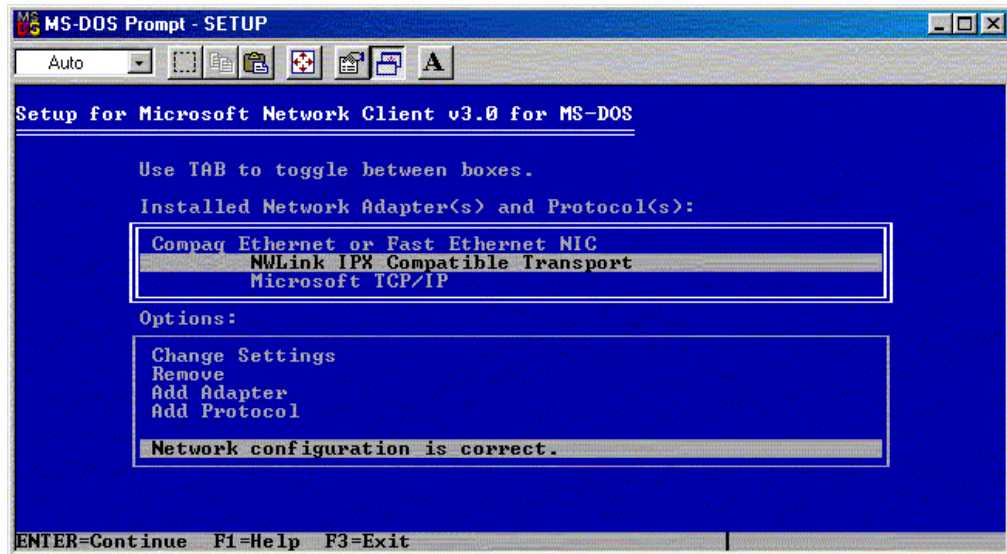

Figure A-13: Protocol adapter bindings
11. Highlight **Microsoft TCP/IP** and press the **Enter** key to add the protocol. A screen similar to Figure A-13 is displayed and shows the recently added protocol.